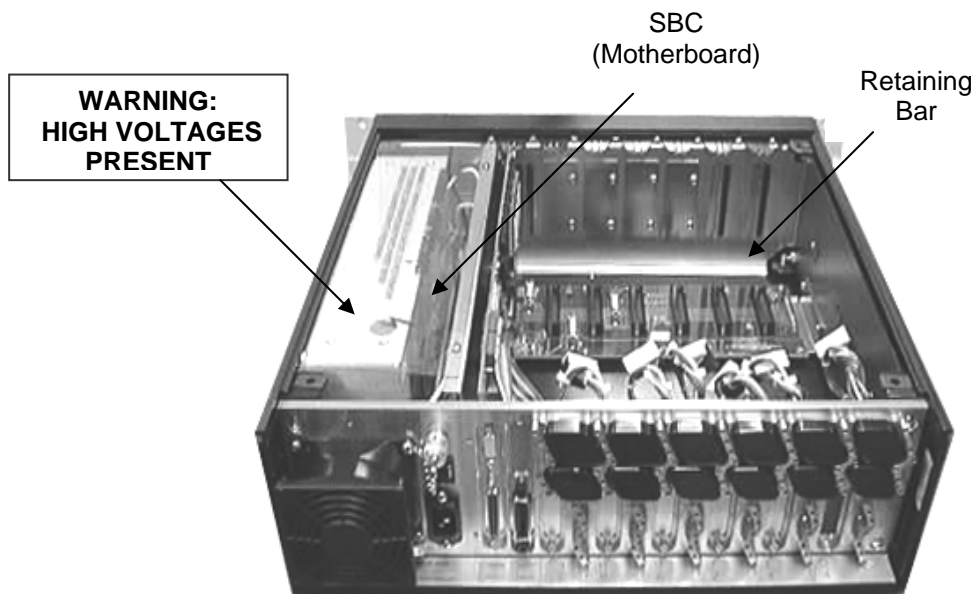

Figure 54: The retaining bar removal from the controller.
6. Remove the axis board retaining bar located along the inside front of the controller. *See Figure 54.*